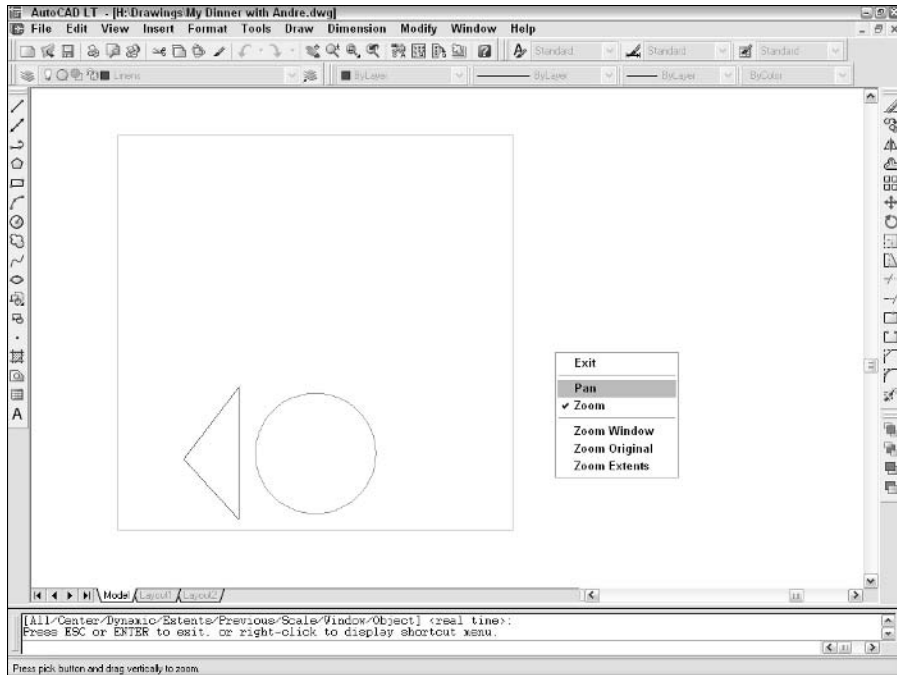

Figure 4-7:
- 3. Right-click in the drawing area to display the Zoom/Pan Realtime menu, shown in Figure 4-7. Choose Pan from the menu.**